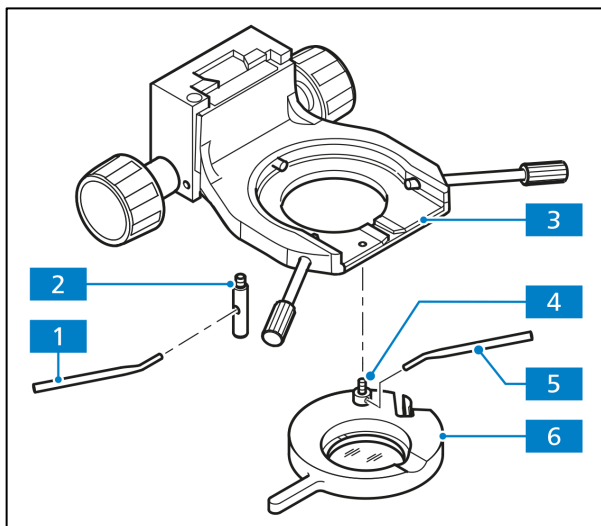

Fig. 3-46 Mounting the polarizer D
- For easy assembly, remove the condenser carrier (Fig. 3-46/3) fully, with the stage carrier.
- Hold the polarizer or filter holder (Fig. 3-46/6) parallel to the bottom of the condenser carrier (Fig. 3-46/3) and screw the bracket bolt (Fig. 3-46/4) of the polarizer (Fig. 3-46/6) with the angled adjustment lever (Fig. 3-46/5) into the front threaded opening at the left below the condenser carrier (Fig. 3-46/3) until it stops.
- Screw the stop bolt (Fig. 3-46/2) with the adjustment lever (Fig. 3-46/1) to the stop into the rear threaded opening of the condenser carrier (Fig. 3-46/3).